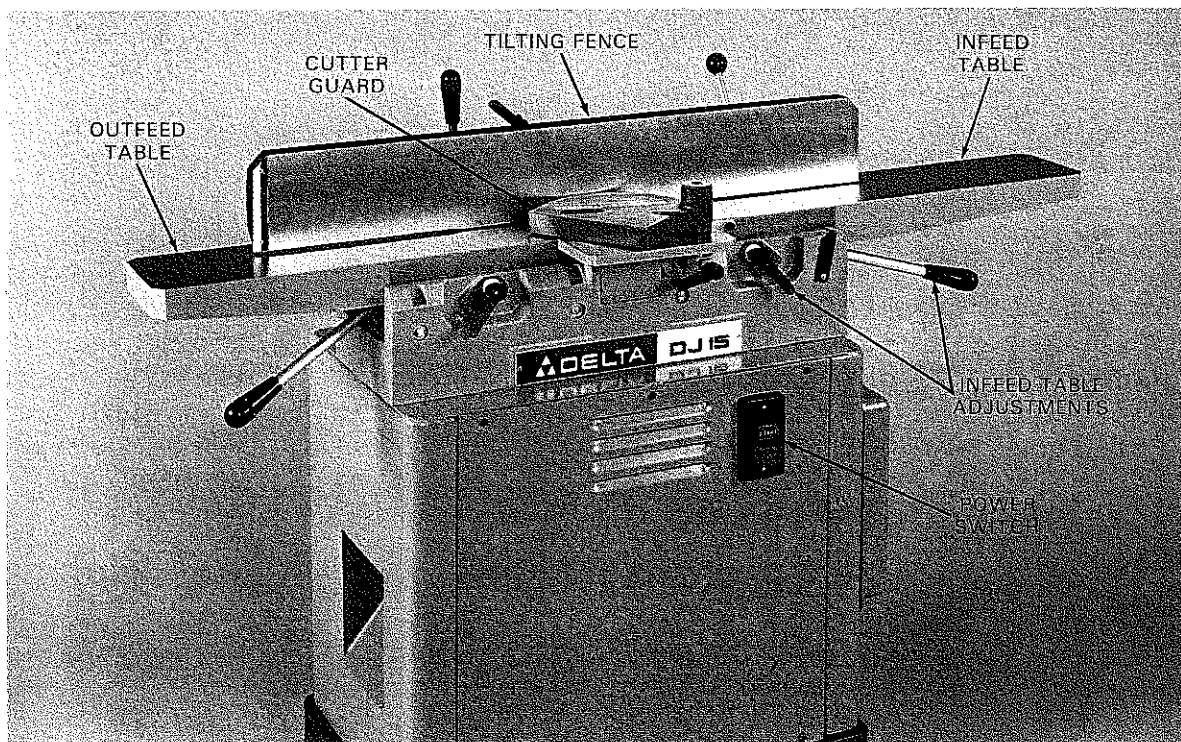

Fig. 10-1. A jointer is used to surface the face, edge, or end grain of wood. (Delta International Machinery Corp.)
The size of the jointer is specified as the length of its KNIVES. The knives are the parts of the jointer that actually do the cutting. A jointer usually has three knives, which revolve in a CUTTERHEAD at about 4500 RPM. A jointer, as shown in Fig. 10-1, is equipped with an infeed table, outfeed table, fence, and cutter guard. The INFEED TABLE, or front table, is adjusted to the desired depth of cut. It is adjusted with either the handwheel or an adjustment lever
1. Compare the illustration of the jointer in Fig. 10-1 to the jointer in your wood laboratory. How do they differ? How are they